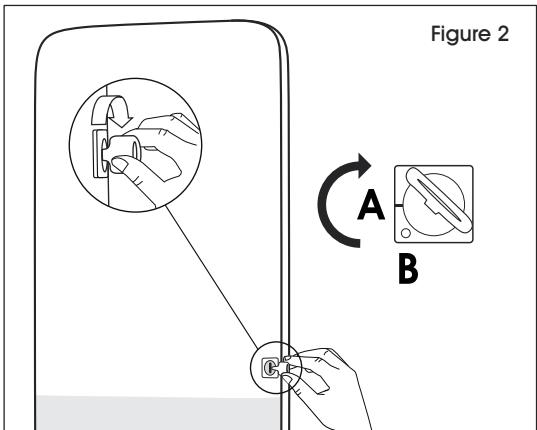

Figure 2
2. Turn and hold key clockwise to open dispenser. (See Figure 2)